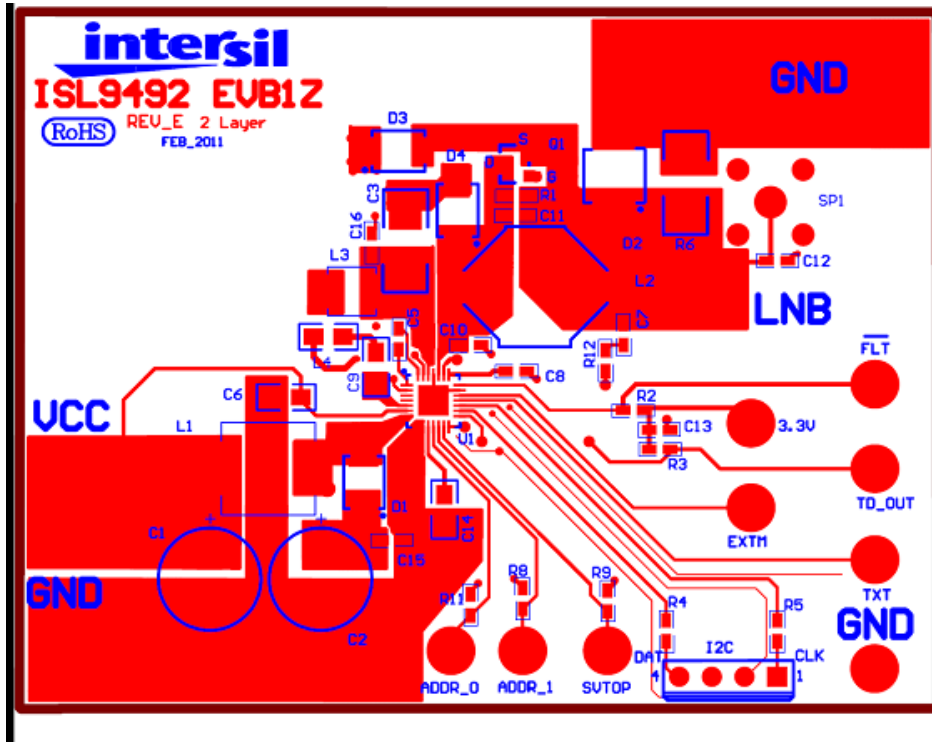

FIGURE 13. 2 LAYER - TOP
6. C1, C2, C15, C6 and pins 8 and 9 are in a tight configuration with GNDs connected to input power post GND. All other components going to GND are dropped directly to the second GND plane. The second layer is connected to the top GND layer right next to C1 ground connection as shown in Figures 13 and 14.